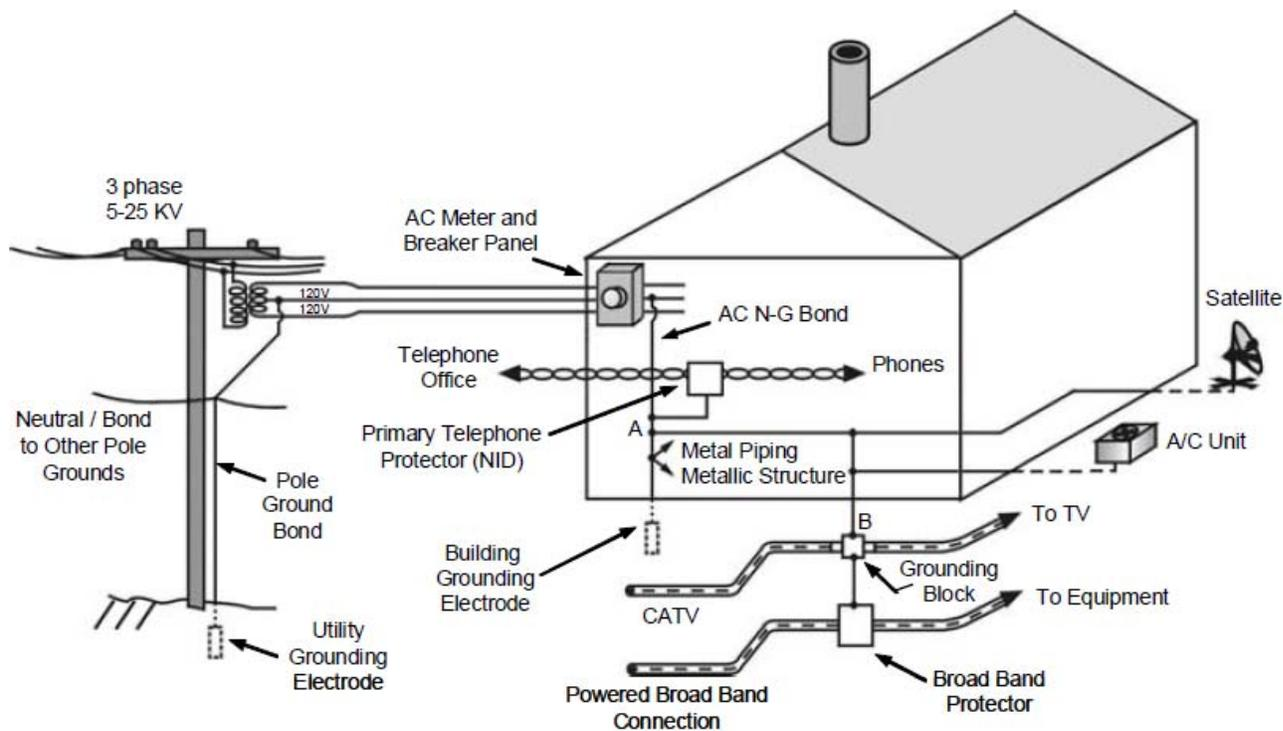

Figure 3: Basic Grounding and Protection Required by 2002 NEC5
- The NEC requires protection to be installed at the building entrance for telephone cables (NEC 70 article 800), CATV/antenna/satellite coaxial cables (NEC 70 articles 810 and 820), and broadband cables which carry power (NEC 70 article 830). Your phone, satellite or cable company should have ensured the lines entering your home have been properly protected when they were installed (figure 3).